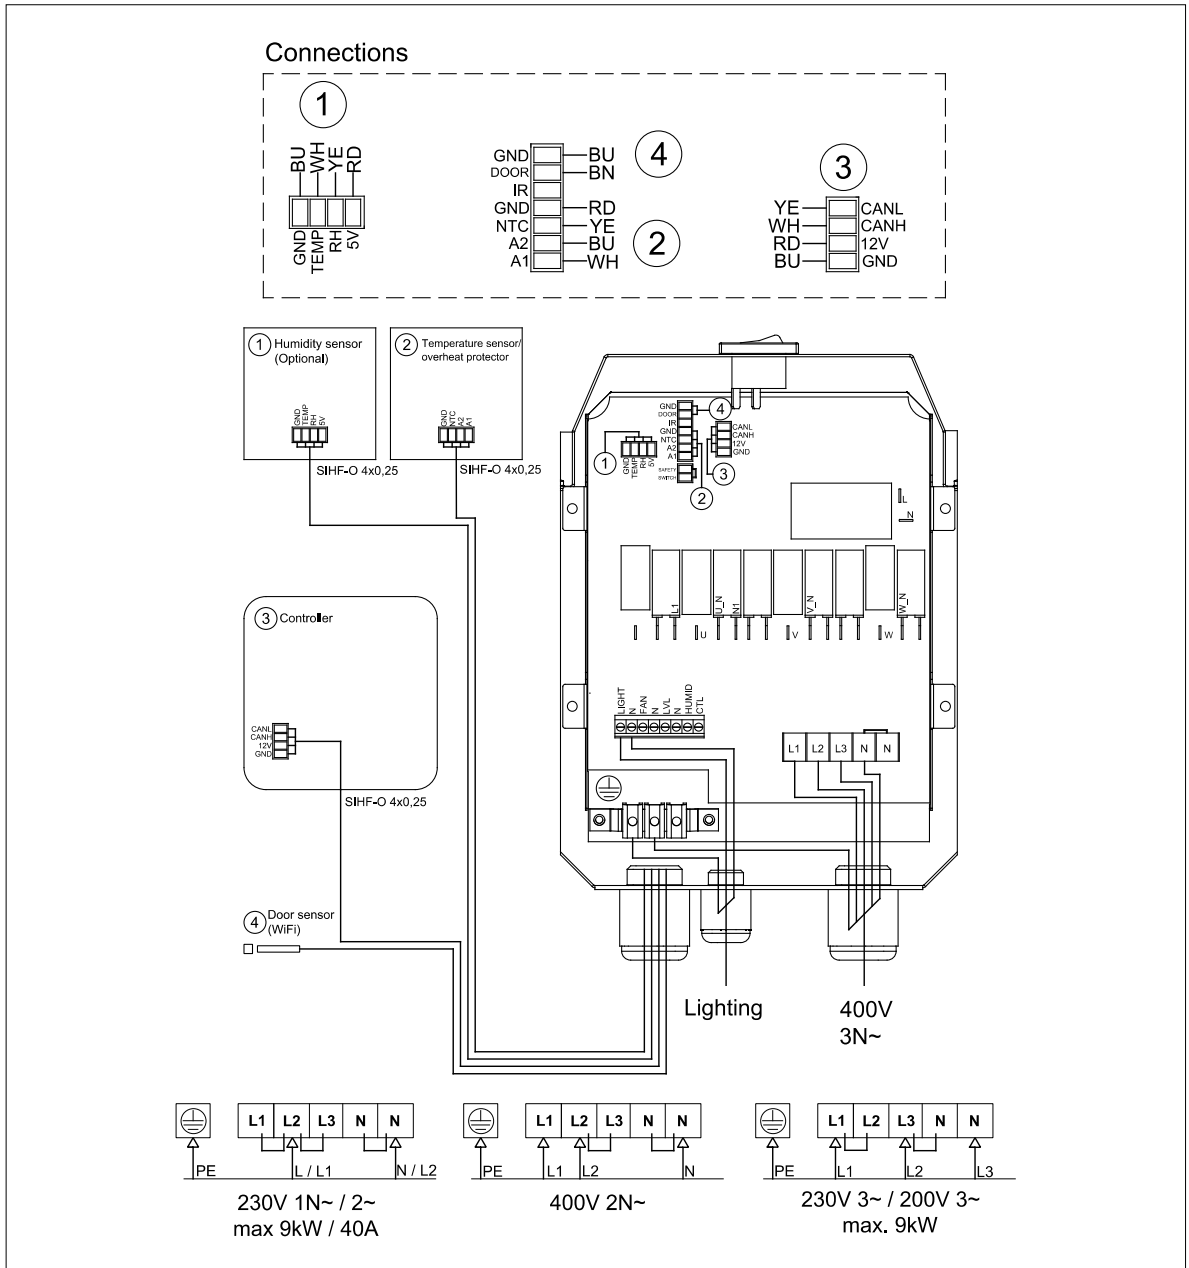

Figure 2. Wiring diagram
6. Once the components of the controller have been installed and connected, the power supply cable can be connected to the sauna heater according to the wiring diagram (Figure 2). The